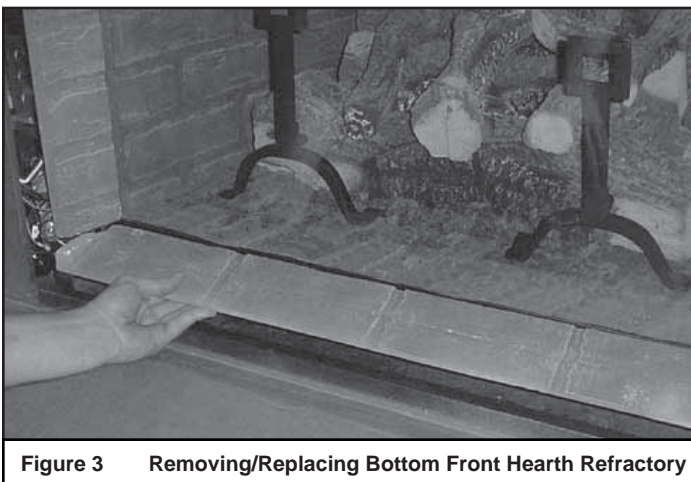

Figure 3 Removing/Replacing Bottom Front Hearth Refractory
- Slide bottom hearth refractory out from under side refractories and set aside. See Figure 3.